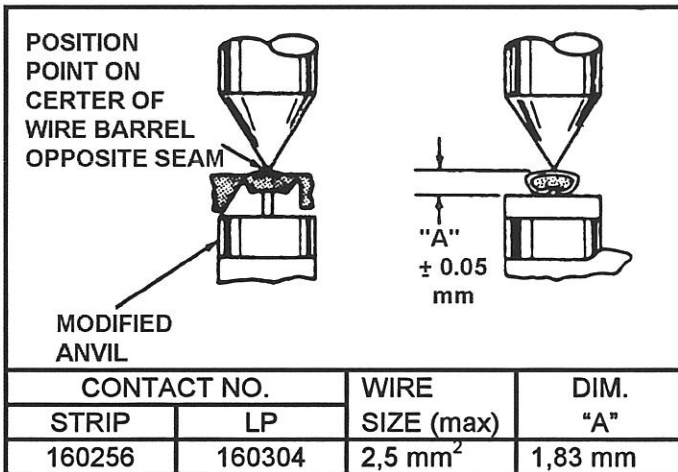

FIGURE 4
This inspection requires the use of a modified micrometer with a modified anvil as shown in Figure 4.
3. Using a crimp height comparator, measure the wire barrel crimp height as shown in Figure 4. If the crimp height conforms to that height, the tool is considered dimensionally correct. If not, the tool must be returned to AMP for evaluation and repair. See Section 2-3, REPLACEMENT AND REPAIR.